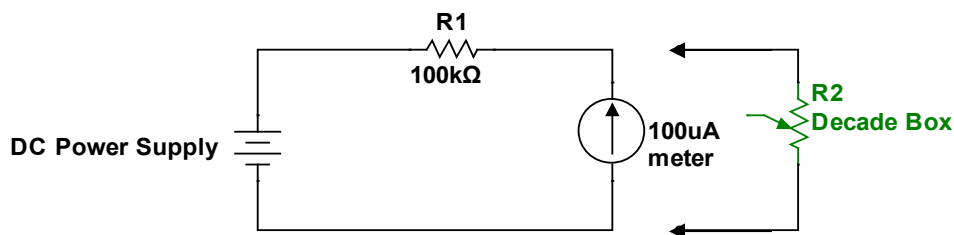

Figure 1
1. Connect the circuit shown in Figure 1, but leave the power supply turned off.